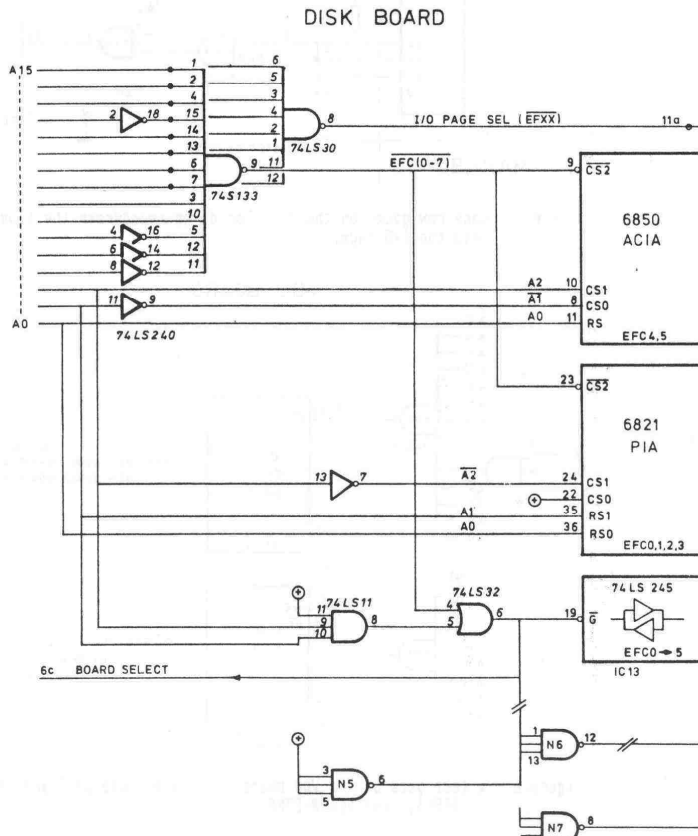

figure.4 - on the interface board, the PROM retires, and the bus-buffers are on-ly disabled on the PIA addresses.
Soon I realized that, and found a way to gain the undecoded addresses in the \$C000 → DFFF (disk + video) space. Although this now went beyond the scope of this article, may be some users will benefit from the idea, so it follows. I've used for some time the 8K RAM + EPROM card (2) with some utility programs by means of the addition of only one IC. A 4-input and gate (fig.1) enables the card in the locations unused by the VDU or the FLOPPY cards; two lines must run to this gate: one (\$C000→C0FF) is already wired in the DISK board from pin 6 of IC2 (74LS10) to pin 6c of the bus connector (ref.4, fig.9); the other (\$D800→D807), in the VDU board, can be wired by an insulated jump from pin 9 of IC9 (74S133) to pin 6a of the bus (ref.6, fig.4). The opposite is done in the EPROM card from these bus-connector pins to the inputs of the new gate as illustrated here. Every time one of these signals is low, the card cannot be read; this memory board shall work only with EPROM (3x2716) and addressed in the base address of \$C000-DFFF. And the result is that \$C100-C7FF (EPROM IC25), \$C800-CFFF (IC26) and \$D808-DFFF (IC28) are free to use for utilities in EPROM, totalizing a good 6K space.
B - MODIFICATIONS ON THE INTERFACE CARD (ref.3, fig.1); fig.4
Following fig.4, let us begin with IC1, 6522 VIA: previously located at \$F800-F9FF (\$1800-19FF) it shall fall into the tiny \$EFA0-EFAF 16 addresses that it deserves. Line \$EFXX, already mentioned, will substitute K6 on the CS2. And A=B, from the 'LS85 (main board) will be linked to CS1 instead of the old VIA line (the output of gate N35).
D - VDU BOARD - fig.6; (ref.6, fig.4)